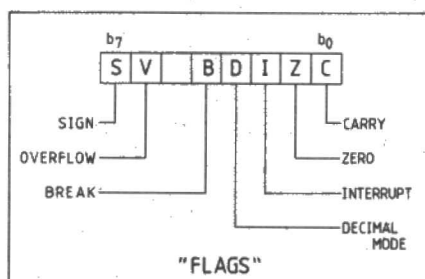

Figure 2. The 6502 Processor Status Register.
The Processor Status Register (P): Another 8-bit register, each bit of which is an independent 'flag'. Because of its particular importance and usage, this register is shown in more detail in Figure 2. Each flag is nothing more than a flip-flop which is either SET (equal to 1) or CLEAR (equal to 0). Whether a flag is SET or CLEAR depends upon the result of some previous computer operation.